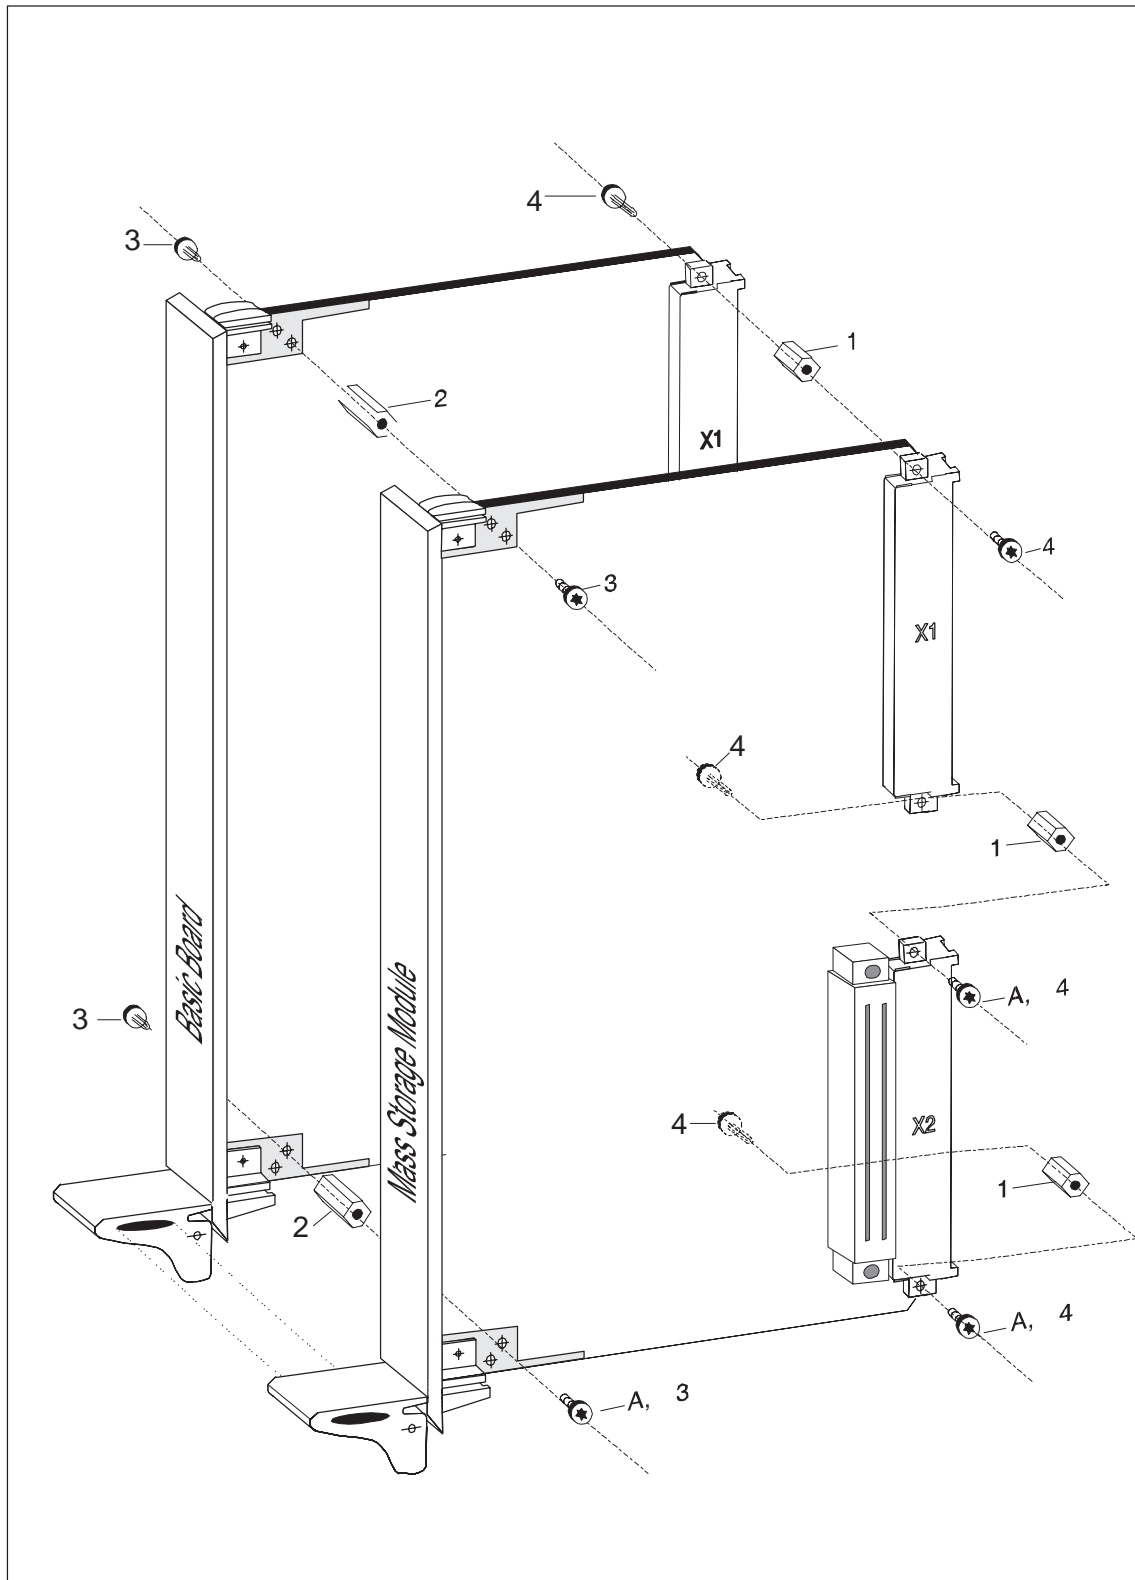
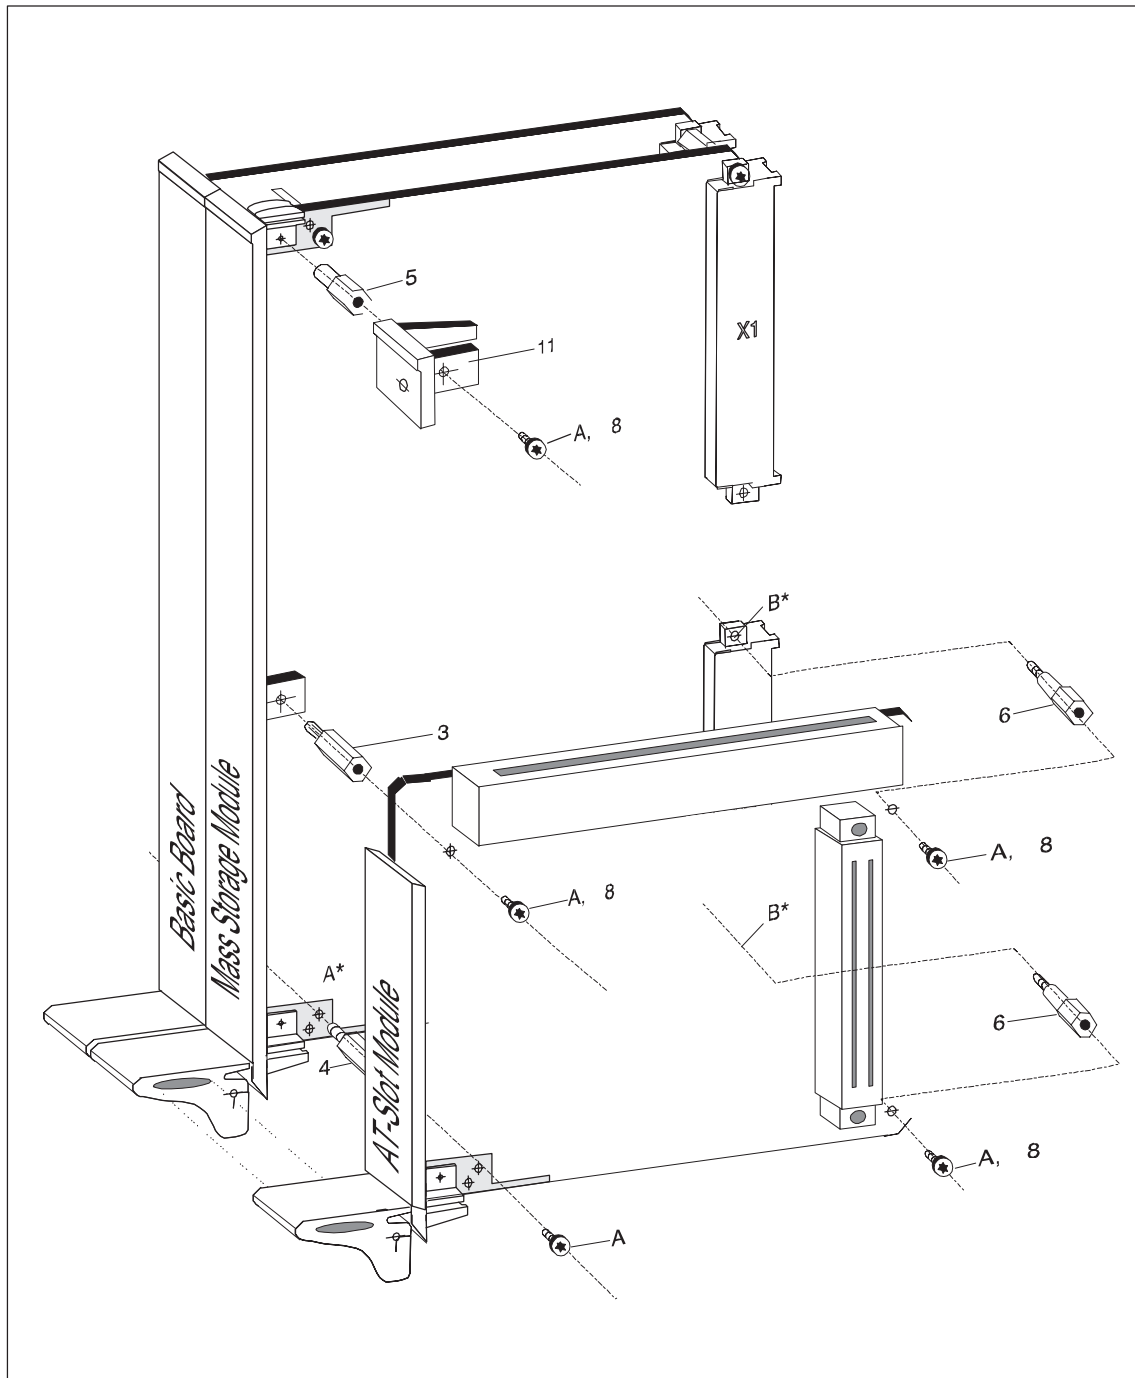
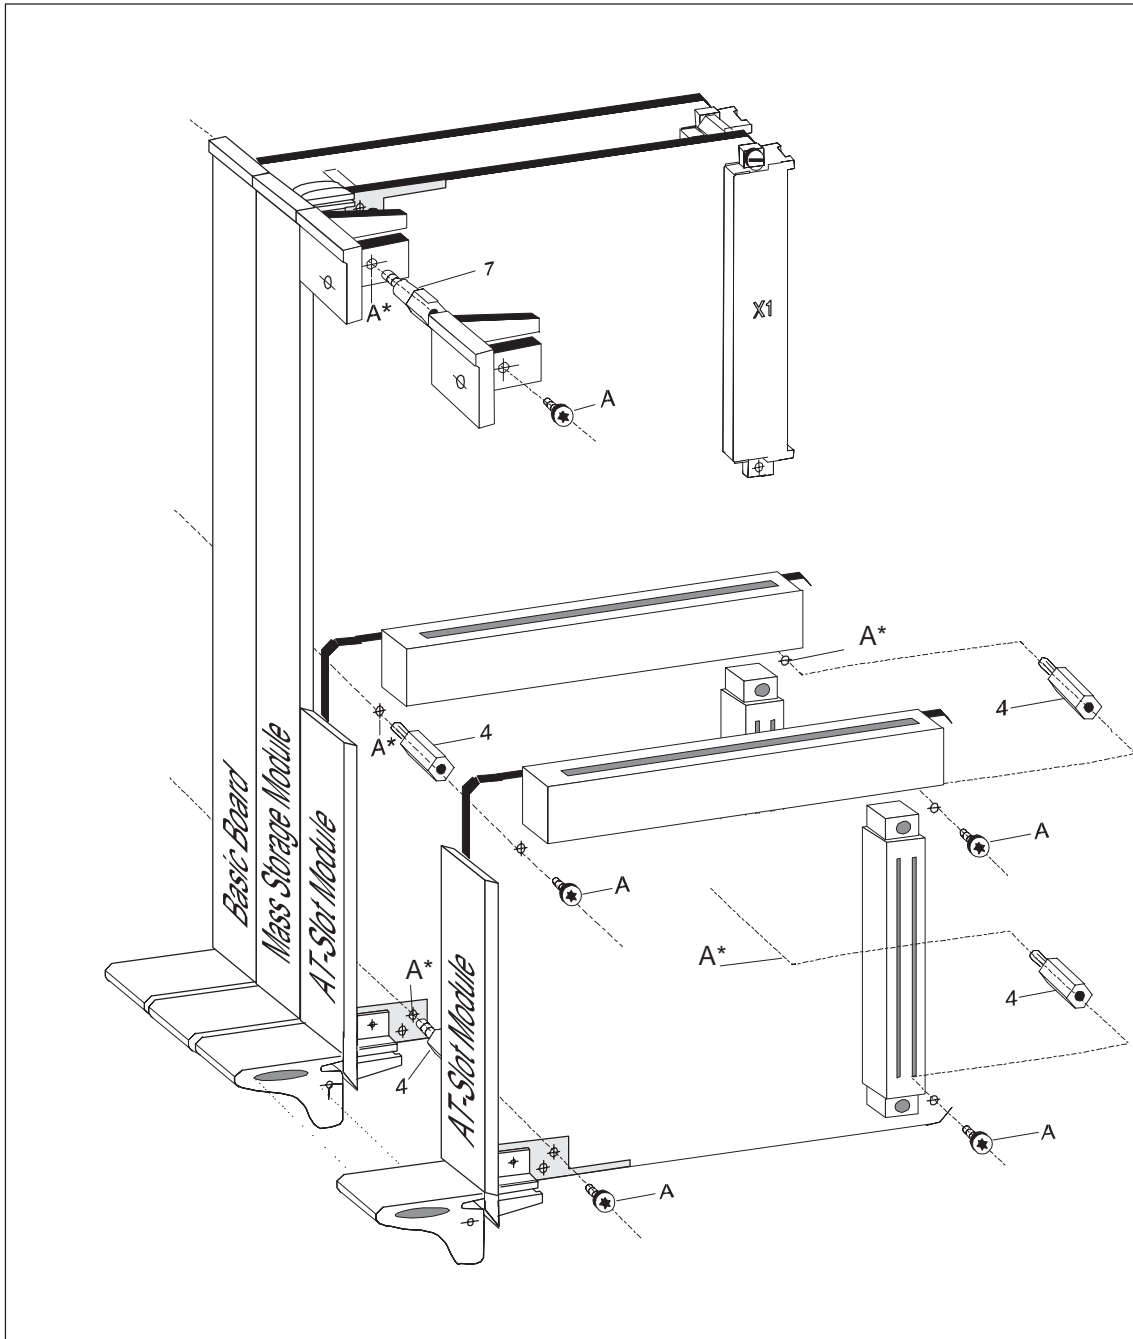

Figure 2-6 Assembly of the Mass Storage Module onto the Basic Board
Figure 2-10 Assembly of an AT Slot Module onto the Mass Storage Module
Figure 2-11 Assembly of Two AT Slot Modules onto the Mass Storage Module
Proceed as follows according to Figure 2-6 in order to assemble the modules:
1. Screw the spacers “1” and “2” onto the basic board according to Figure 2-6. Insert the screws “3” and “4” from the solder side (the side of the module provided with a cover).
3. Screw the two modules together as in Figure 2-6. If you wish to fit the AT slot module immediately, **do not tighten** the screws identified “A.”
Proceed as follows according to Figure 2-10 in order to assemble the modules:
Loosen the two screws identified “A\*” and “B\*”. Screw “A\*” is required for the further assembly (identified by “A” in Figure 2-10), screws “B\*” are replaced by the screws identified by “A, 8” in Figure 2-10.
2. Screw in the spacer bolts “3,” “4” and “6” according to Figure 2-10.
4. If you do not wish to fit a further AT slot module, screw the two modules together using the screw identified “A” and the three screws identified “A, 8” in Figure 2-10 and fit the part “Front panel, top” (“11”) onto the spacer bolt “5” using a screw “A, 8.”
If the spacer bolts “6” in Figure 2-10 do not immediately grip when screwing in, slightly loosen the screws identified “4” in Figure 2-6 (1/4 revolution), screw in the bolts and tighten the screws again.
Proceed as follows according to Figure 2-11 in order to assemble the second AT slot module:
Remove the five screws identified "A\*". The screws are required for the further assembly (identified "A" in Figure 2-11).
2. Screw in the spacer bolts as in Figure 2-11.
4. Screw in the two AT slot modules together as in Figure 2-11 using the four screws identified "A."
5. Fit the first part, "Front panel, top," onto the spacer bolts identified by "5" in Figure 2-10; tighten the part using spacer bolt "7" (Figure 2-11). Using the fifth screw "4", subsequently fit the second part "Front panel, top" onto the spacer bolt "7" screwed in for securing the first part.